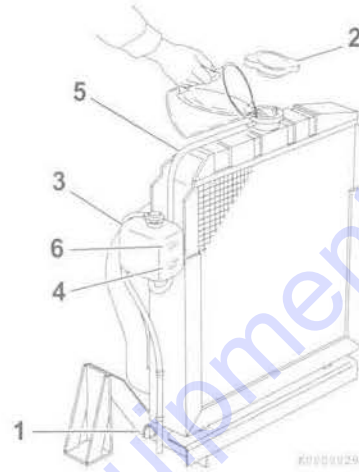
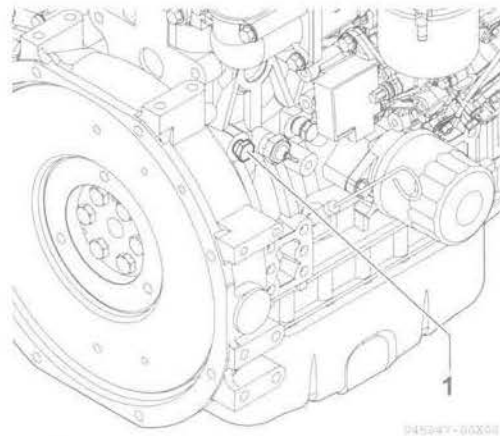

Figure 5
Figure 6
1. Check to be sure the radiator drain plug is installed and tightened or the drain valve (1, Figure 5) is closed. Also make sure the coolant drain plug (1, Figure 6) in the cylinder block is closed.
2. Remove the radiator cap (2, **Figure 5**) by turning it counterclockwise about 1/3 of a turn.
4. Reinstall the radiator cap (2, **Figure 5**). Align the tabs on the back side of the radiator cap with the notches on the engine coolant filler port. Press down and turn the cap clockwise about 1/3 of a turn.
5. Remove the cap of the reserve tank (3, **Figure 5**), and fill it to the LOW (COLD) mark (4, **Figure 5**) with engine coolant. Reinstall the cap.
6. Check the hose (5, **Figure 5**) that connects the reserve tank (3, **Figure 5**) to the radiator. Be sure it is securely connected and there are no cracks or damage. If the hose is damaged, engine coolant will leak out instead of going into the reserve tank.
7. Run the engine until it reaches operating temperature. Check the level of engine coolant in the reserve tank. When the engine is running and the engine coolant is at normal temperature, the coolant level in the reserve tank should be at or near the FULL (HOT) mark (6, **Figure 5**). If the coolant is not at the FULL (HOT) mark, add coolant to the reserve tank to bring the coolant level to the FULL (HOT) mark.
1. Check the level of engine coolant in the reserve tank. When the engine is cold, the coolant level in the tank should be at or slightly above the LOW (COLD) mark (4, **Figure 5**) on the coolant reserve tank.
If the coolant level is at the FULL (HOT) mark (6, **Figure 5**) when the engine is cold, the coolant will expand when it becomes hot and possibly spray out of the overflow hose.